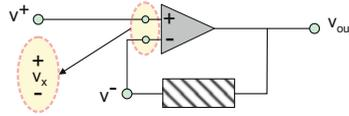

Fig. 5.7. A feedback loop around an amplifier.
We construct *the feedback loop*, as shown in Fig. 5.7, by connecting the output to the inverting input terminal. This was exactly the idea of Harold Black. The shadowed box in the feedback loop may represent one or more circuit elements. The feedback loop may be a simple wire, a resistance, a network of circuit elements (resistances, inductances, capacitances), etc. The *negative feedback* simply means that *the output voltage, or rather a portion of it, is returned back to the inverting input.*
**Example 5.2:** An amplifier with a feedback loop in Fig. 5.7 has  $v^+$  fixed at +10 V.  $v^-$  is equal to 0 V at  $t = 0$ . We shall assume that 50 % of  $v^+$  is returned back to the input in 1  $\mu$ s. How does the differential voltage  $v_x$  change with time?